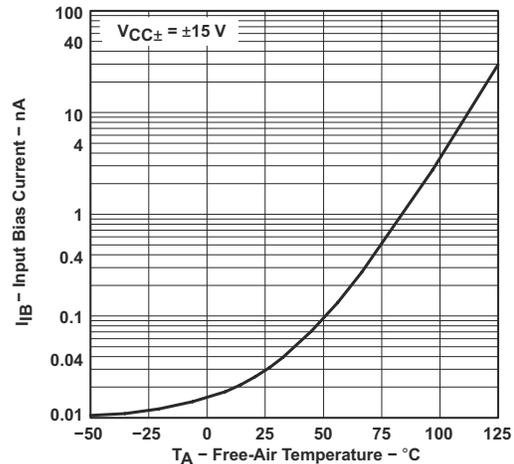

Figure 6-12. Input Bias Current vs Free-Air Temperature
- (1) All characteristics are measured under open-loop conditions with zero common-mode input voltage unless otherwise specified. Full range for T_A is 0°C to 70°C for TL06xC, TL06xAC, and TL06xBC and -40°C to 85°C for TL06xI.
- (2) Input bias currents of an FET-input operational amplifier are normal junction reverse currents, which are temperature sensitive, as shown in Figure 6-12. Pulse techniques are used to maintain the junction temperature as close to the ambient temperature as possible.
- (3) Specified by design and characterization; not production tested.
- (1) All characteristics are measured under open-loop conditions with zero common-mode input voltage, unless otherwise specified. Full range for T_A is 0°C to 70°C for TL06xC, TL06xAC, and TL06xBC and -40°C to 85°C for TL06xl.
- (3) Assured by design and characterization; not production tested.
- (1) This parameter is not production tested.
- (2) All characteristics are measured under open-loop conditions, with zero common-mode voltage, unless otherwise specified.
- (3) Input bias currents of an FET-input operational amplifier are normal junction reverse currents, which are temperature sensitive, as shown in Figure 6-12. Pulse techniques are used to maintain the junction temperature as close to the ambient temperature as possible.
- (4) Specified by design and characterization; not production tested.